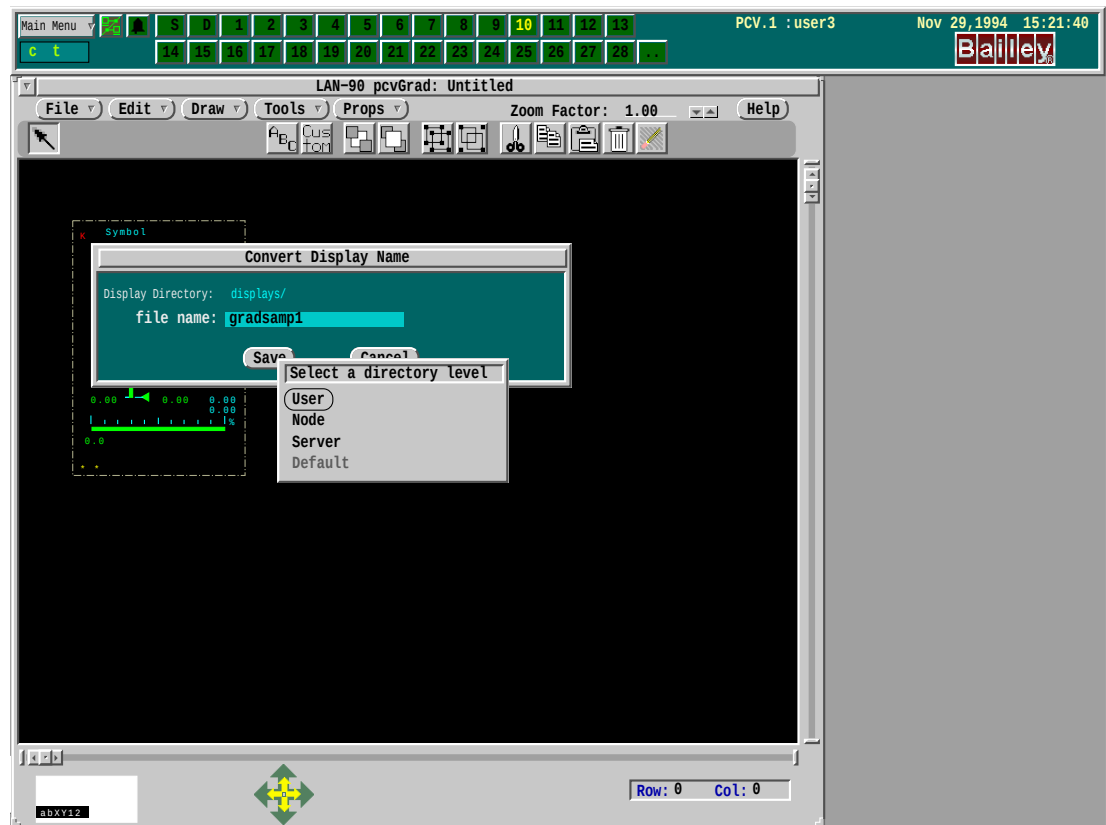

Figure 6-8. Convert And Save at User Level
- Leave the file name as is. Press <Enter> (Figure 6-8).
The button bar at the top of the GraD windows contains five labeled buttons (Refer to Figure 6-8):